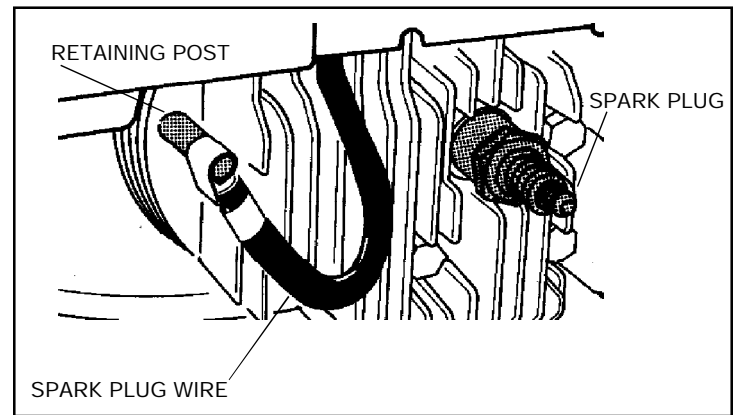

Figure 5
- A. **DISCONNECT SPARK PLUG WIRE FROM SPARK PLUG AND ATTACH IT TO RETAINING POST (see Figure 5).**